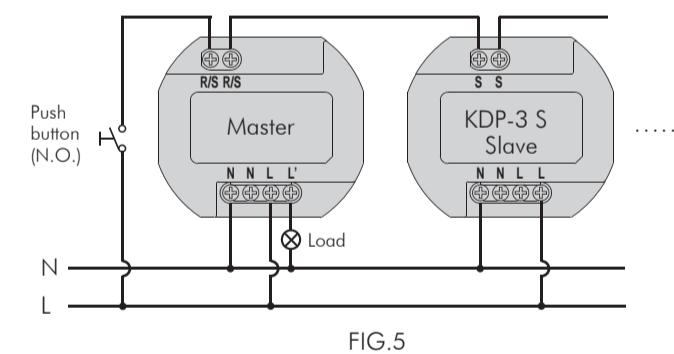
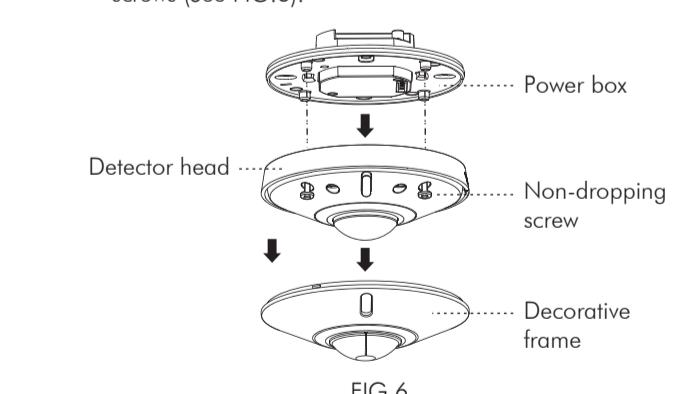
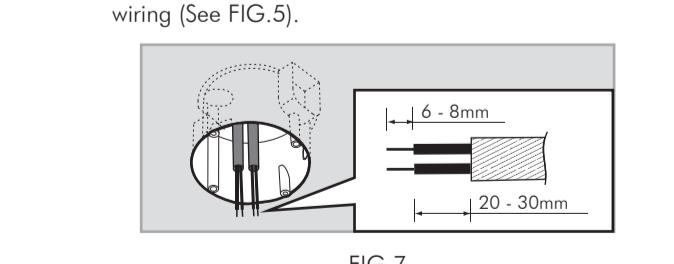

FIG.5
FIG.6
FIG.7
Master / Slave operation (Max. 10pcs slave detectors can be connected to R/S terminal of the master detector) (See FIG.5).
3.4.1.1 Take off decorative frame of KDP-3 S, then take the detector head apart from power box by unscrew its 4pcs non-dropping screws (See FIG.6).
3.4.1.2 Pull out AC power cables from European standard junction box (See FIG.7), then strip off 6 - 8mm of cable sheathing for wiring (See FIG.5).
3.4.1.4 Fix the detector head on power box by inserting its four non-dropping screws into the corresponding screw holes, then cover over the decorative frame (See FIG.6).
3.4.2.3 Please refer to illustration of FIG.5 for correct wiring and then screw the KDP3/5 tightly.
3.4.3.5 Refer to wiring diagrams for correct wiring connection (See FIG.5). There is a square hole in the fixing plate, when you put the fixing plate into the junction box, please fit the filister to the junction box's protrusion (See FIG.16), then fix the detector head on the power box following FIG.6 and assemble them with the attached 4pcs non-dropping screws.